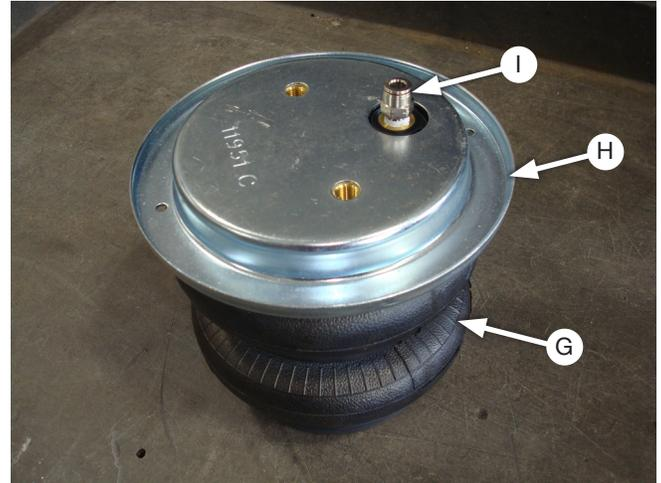

Fig. 19
1. Set a roll plate (H) over both air springs (G) and install the straight fittings (I). Tighten the fittings 1 1/2 turns past finger-tight (Fig. 19).